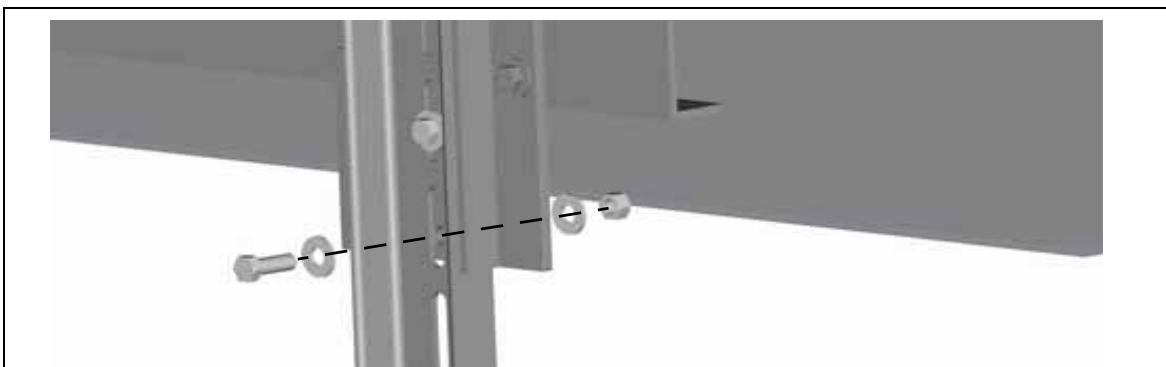

Fig. 7: Securing the installation frame
8. Fix the installation frame with screws (Fig. 7).